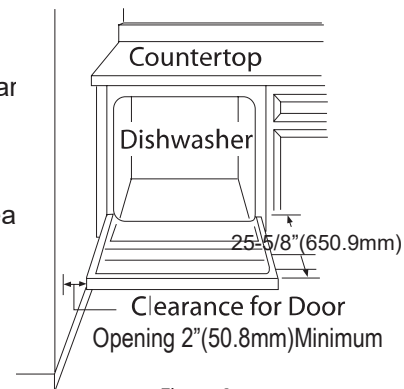

Figure 2
**CLEARANCES:** When installed into a corner, allow 2" (50.8mm) min. clear between dishwasher and adjacent cabinet, wall or other appliances. Allow 25-5/8" (650.9mm) min. clea from the front of the dishwasher for the door opening. Fig. 2